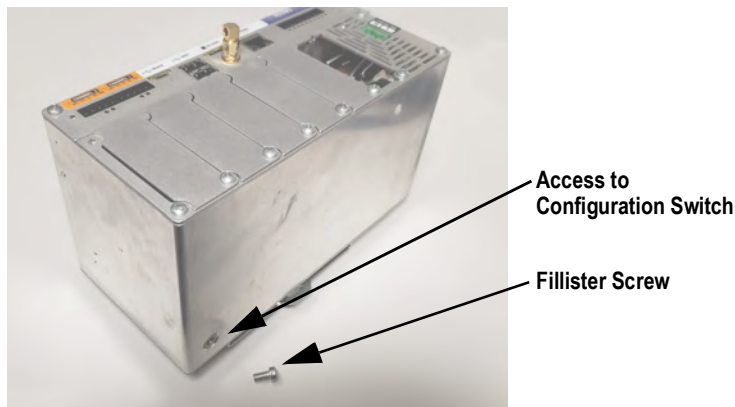

Figure 1. Location of Configuration Switch
1. Press and hold the configuration switch (Figure 1).